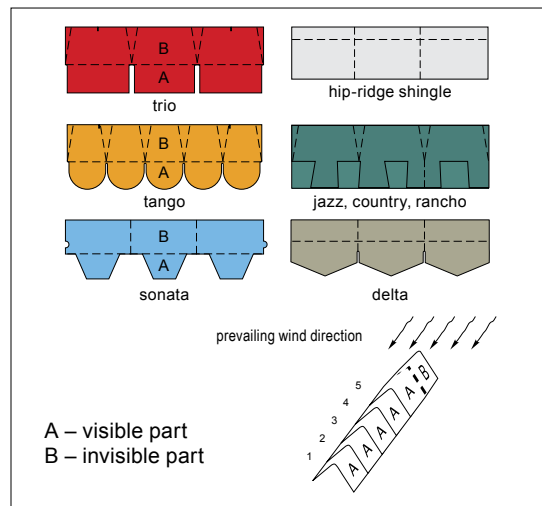

Fig. 21
Cut the edges of shingles lengthwise to fit each particular slope edge – leaving a 0.5 cm gap between them. Then fasten a hip-ridge shingle over the gap in a straight line. TANGO, TRIO, DELTA and SONATA hip-ridge shingles can be cut out of their regular shingles (fig. 21). Apply bitumen mastic No. 23 (FIXER) all-over the bottom side of the cut out shingles before placement. For SONATA shingles: the invisible part is (B), the visible (A). Installed from the bottom upward. SONATA, ACCORD, CONTINENT, WESTERN, JAZZ, COUNTRY, RANCHO shingles can be delivered with universal hip-ridge shingles.
Hip-ridge tiles should be divided into 3 parts at the perforation points and laid in a straight line with a 3–5 cm overlapping, and fastened by two nails on each side of the slope. Shingles should be laid against the prevailing direction of wind (fig. 21).